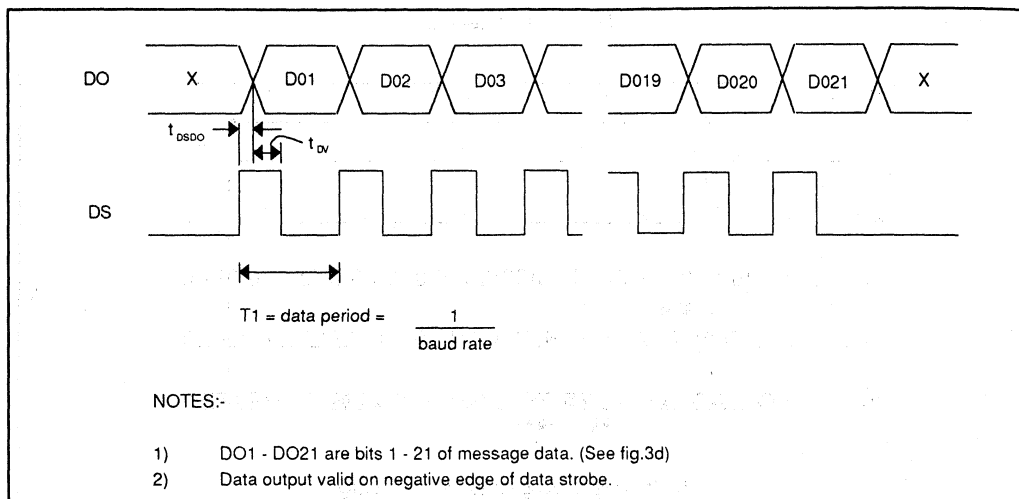

Fig. 5 Data Output Timing
This circuit receives the incoming serial data and performs 2 bit CRC error correction according to the POCSAG standard on all incoming data. Together with the timing logic and pattern detector, this circuit maintains word sync and outputs corrected message data clocked on a positive edge of data strobe (DS) as shown in figure 5. If more than two errors are detected, no attempt is made at corrections and the data is outputted uncorrected with no indication of error.